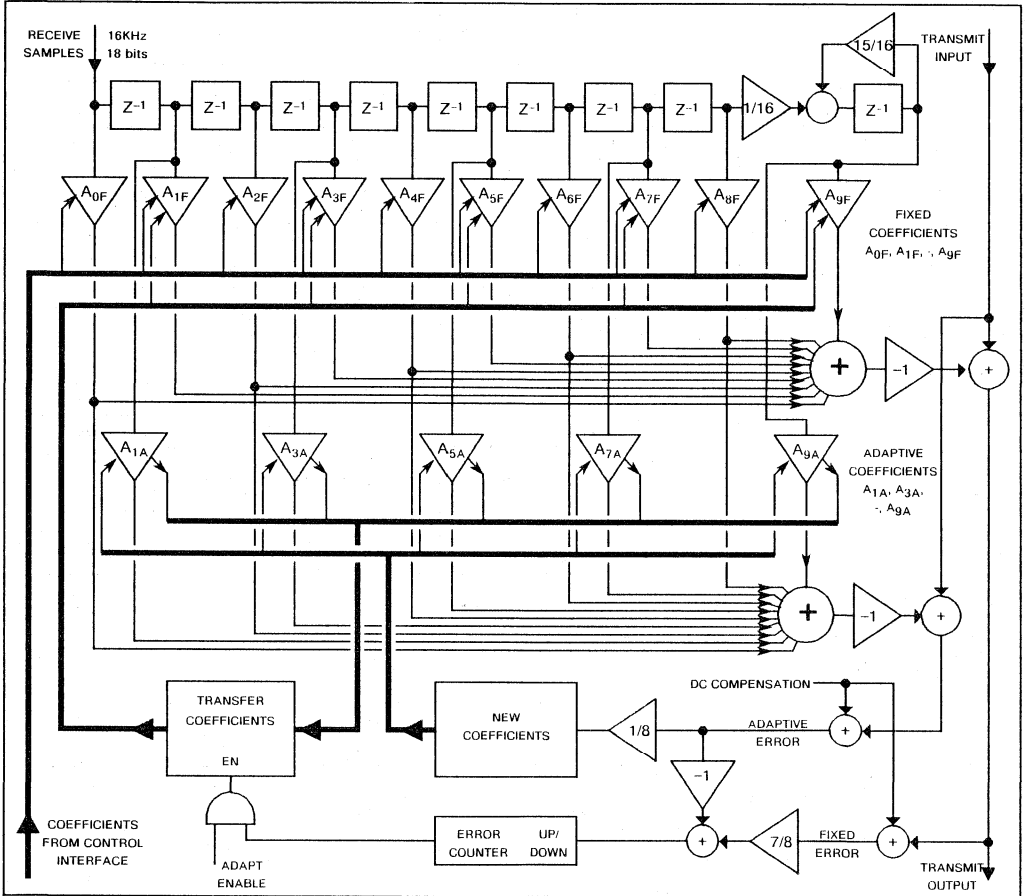

Fig 9 : MV3010-1 Conceptual C Filter Representation (9 Tap FIR + 1 Tap IIR).
Figure 9 shows a more detailed model of the C Filter. It can be seen that the filter is 9 taps FIR followed by a tenth tap IIR, which has a 15/16 multiplier in the feedback loop forming the last tap. This last tap allows matching of any long tail of the impulse response of the echo path, whilst maintaining a more concise structure. As for the Transmit and Receive Filters, the C Filter also operates at a basic 16KHz (62.5µs taps) rate.
For the C Filter to be operative, it must first be enabled via the control interface. The filter can then be used in either Adaptive mode (able to follow changes in the echo path) or Non-Adaptive mode (fixed modelling of the echo path). Adaption takes place (Adapt Enable, Figure 9) with the C Filter enabled, under two separate conditions. Firstly, it may be controlled by use of enable/disable codes via the Control Interface, as described in the Control and Monitoring section. Alternatively, it is set by the logic level at the Status Input (SI) pin using other control codes. Note that adaption may not occur if there is a large DC bias at the VIN pin. The SI pin also controls adaption as described in the Stand-Alone section. When disabled, Transmit samples remain totally unaffected by the C Filter. As with the Transmit and Receive Filters, all of the coefficients can be programmed and/or read out via the Control Interface, whether or not the MV3010-1 is in Power-Up or Power-Down mode (see Control and Monitoring section).